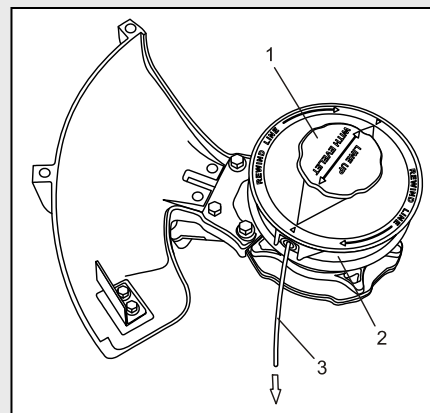

Fig. 4
1. Push the spool knob (1) inward into the bump head housing (2) (Fig. 4).
2. While holding the bump head with one hand, turn the spool knob counter clockwise with the other hand to unspool any existing trimmer line (3) that remains in the spool.